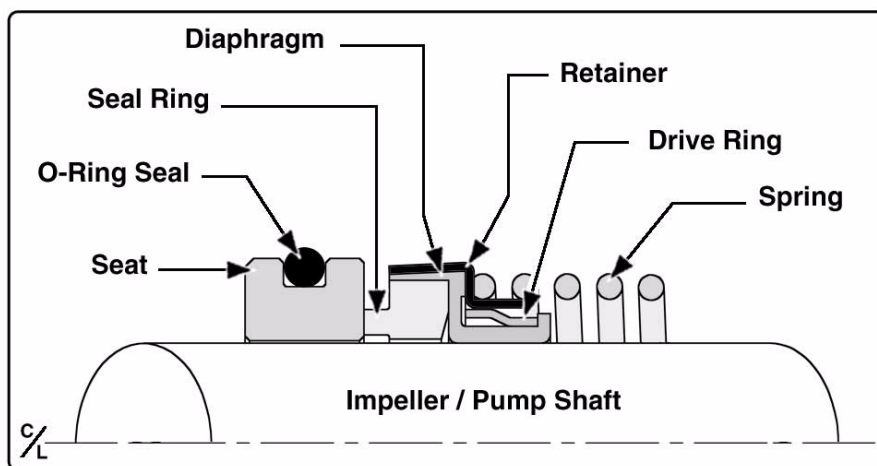

Figure 7a-1: Mechanical Seal Overview / Replacement
(See Figure 7a-1: “Mechanical Seal Overview / Replacement.”)
(See Figure 7a-1: "Mechanical Seal Overview / Replacement" on page 77.)
5. Without touching the carbon seal, slide the stationary seat into the pump head. (See Figure 7a-1: "Mechanical Seal Overview / Replacement" on page 77.)
8. Apply a generous coating of PAC-EASE Rubber Lubricant Emulsion to the seal diaphragm. (See Figure 7a-1: "Mechanical Seal Overview / Replacement" on page 77.)